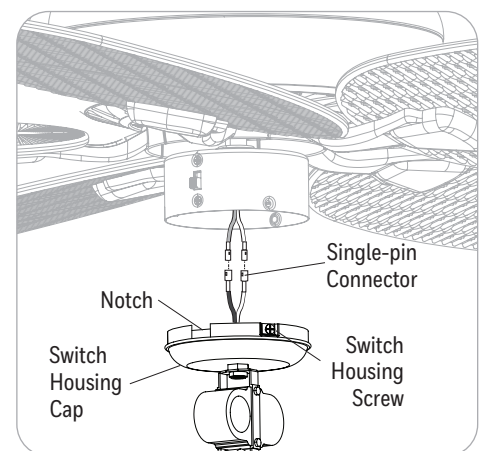

Figure 4.6
6. Remove the three switch housing screws from the top edge of the light kit. Then, connect the single-pin connectors from the fan to the light kit -- blue to black and white to white. Ensure the connectors are secure. Then attach the switch housing cap to the switch housing using the switch housing screws (Figure 4.6). **Note:** Align the notch in the switch housing cap with the reverse switch on the switch housing.